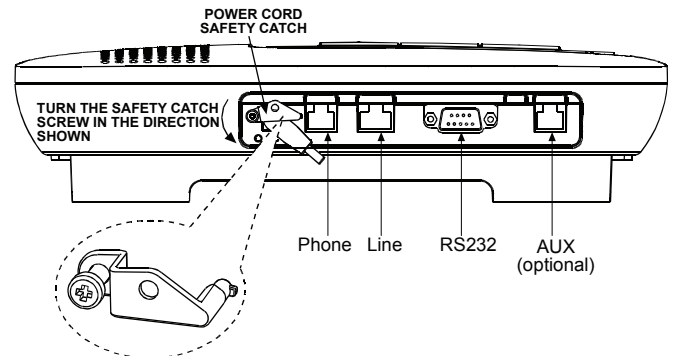

Figure 3a
Connect the Unit to your Telephone Line (Figures 3a and 3b)*
Note: Be aware of other phone line services such as DSL. If DSL service is present on the phone line, you must install a filter. See Figures 3a and 3b for proper installation.
2. Insert the safety catch tab horizontally into the hole to the right of the power cord plug, as shown in Figure 3a.
3. Turn the safety catch screw, observing the polarity of the arrow in Figure 3a, until facing the other hole. Then secure the screw.